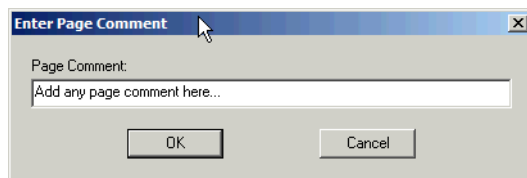

Figure 237. Dialog Enter Page Comment
- Optionally enter a page comment, see Figure 237.
You can enter a page comment on **Insert Page** in the Enter Page Comment dialog, see Figure 237. In addition, the Page comment command  from the **Page** toolbar or menu command **View > Pages > Page Comment** support